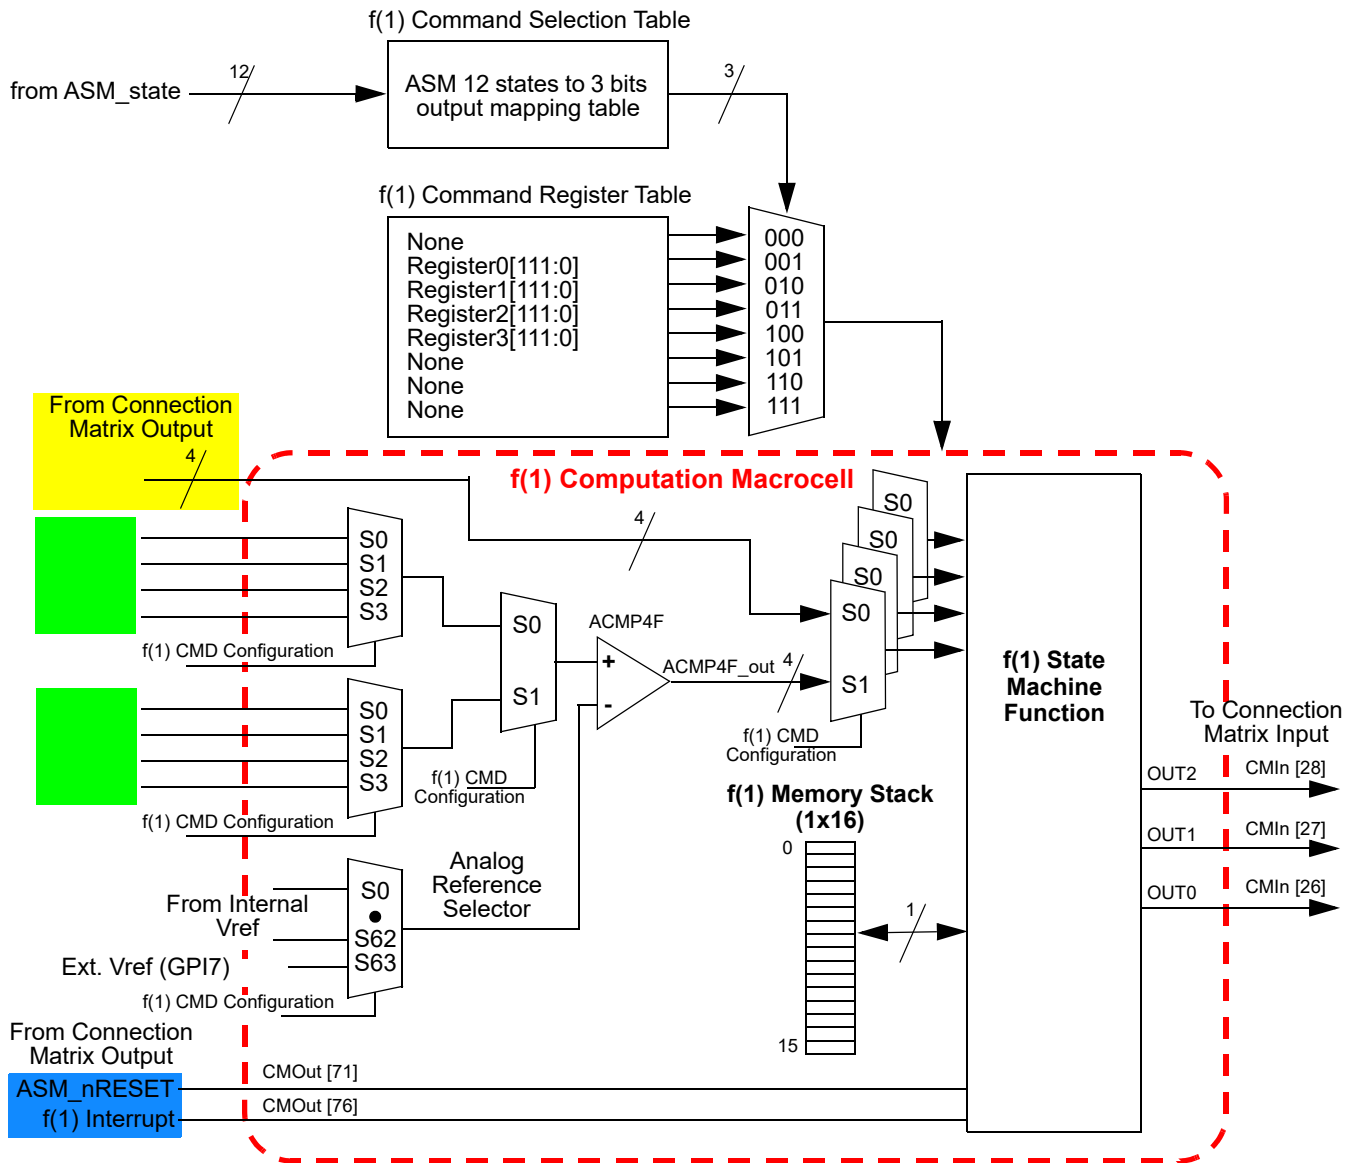

Figure 120: f(1) Computation Macrocell Input Signals
17.3 F(1) COMPUTATION MACROCELL INPUT SIGNALS
The f(1) Computation Macrocell has 6 digital input signals, ASM_nReset, f1_Interrupt, and four inputs from Connection Matrix outputs. An active signal on either of the first 2 inputs will immediately halt any command execution for the f(1) Computation Macrocell, and will immediately relinquish control back to the ASM macrocell. The ASM_nReset is a level sensitive signal, and active low. The f1_Interrupt is a level sensitive signal, and active high. These signals are shown in Figure 120, highlighted in blue. Also there are 4 digital inputs from the Connection Matrix, which can be routed to any Connection Matrix outputs from the f(1) Commands. These signals are shown on Figure 120, highlighted in yellow.